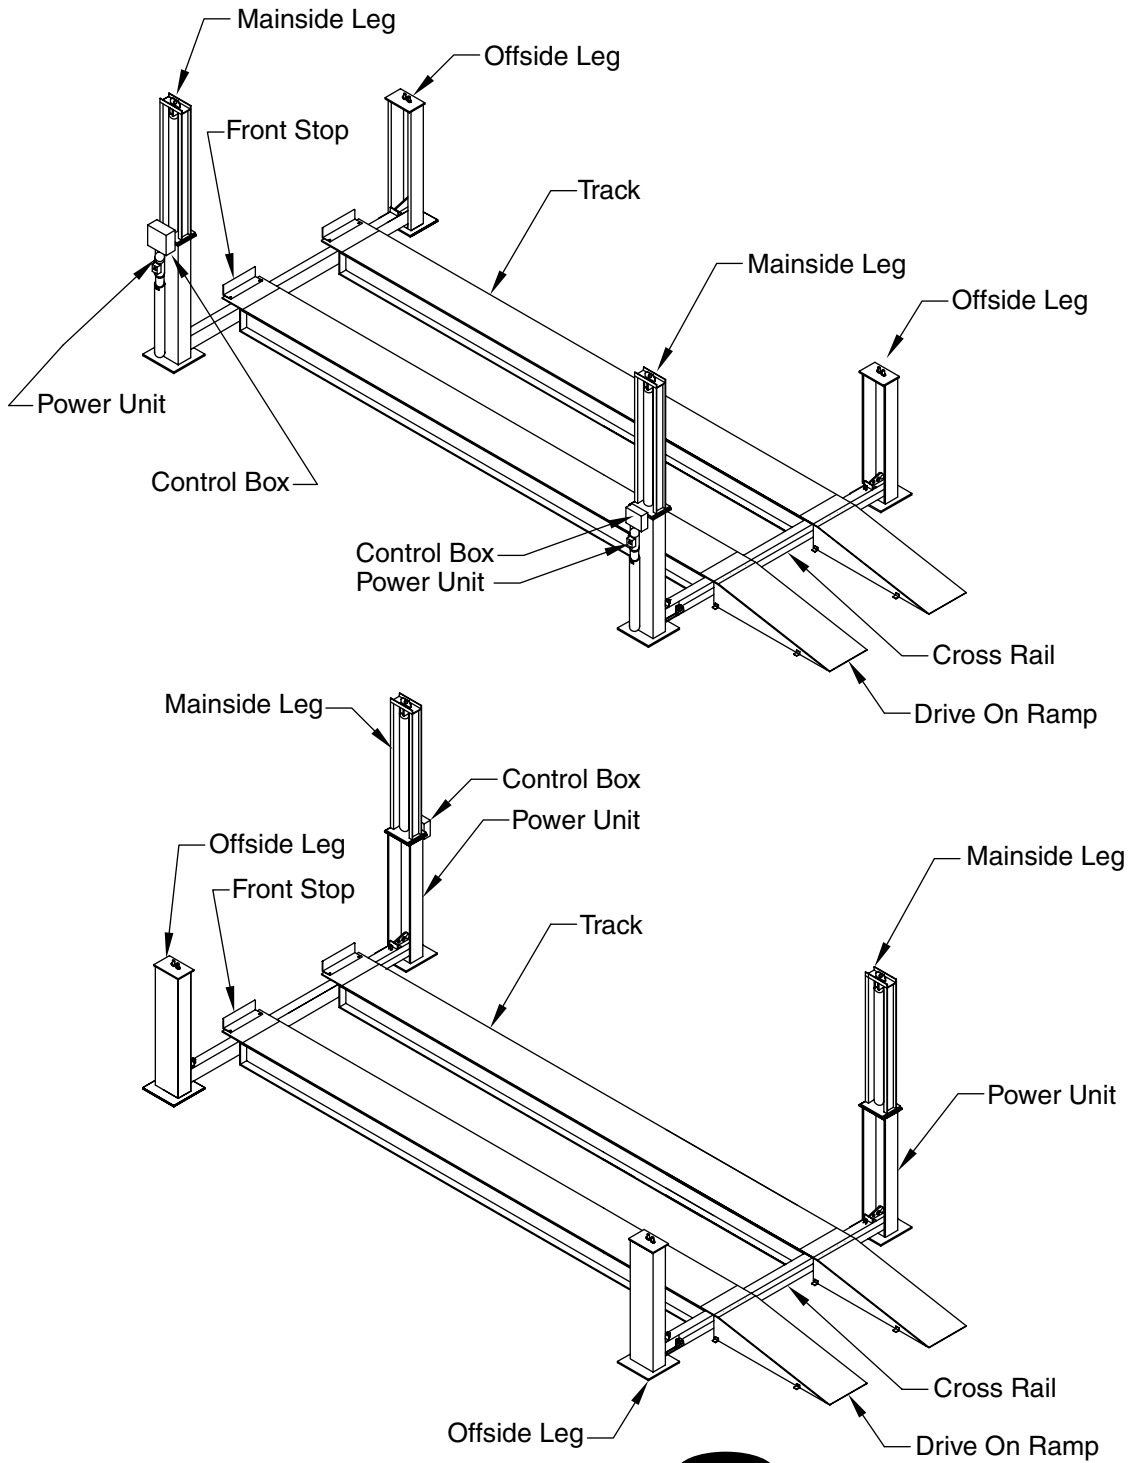
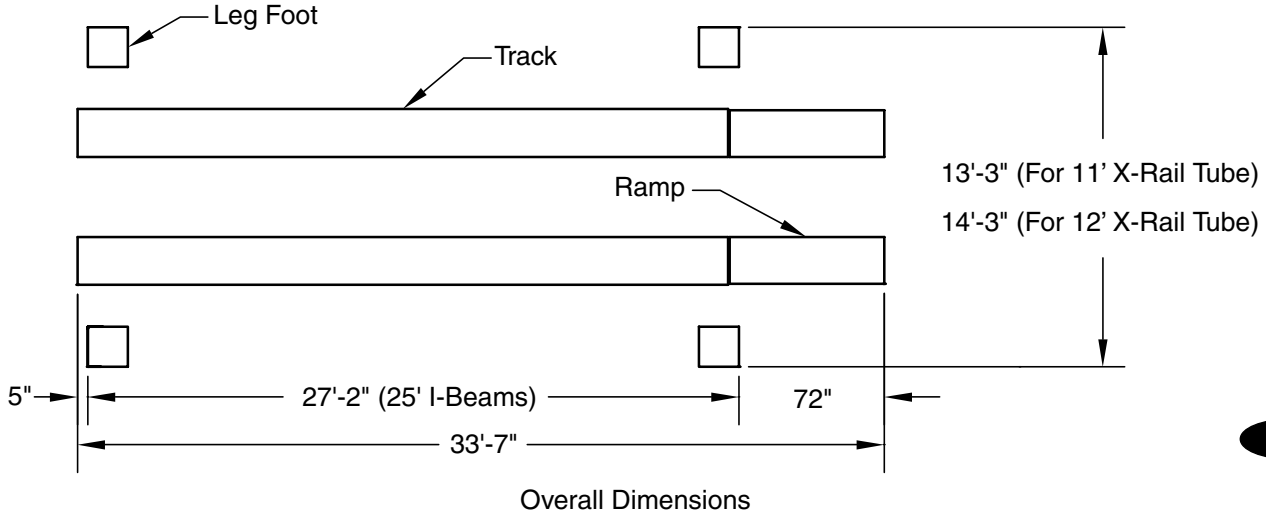
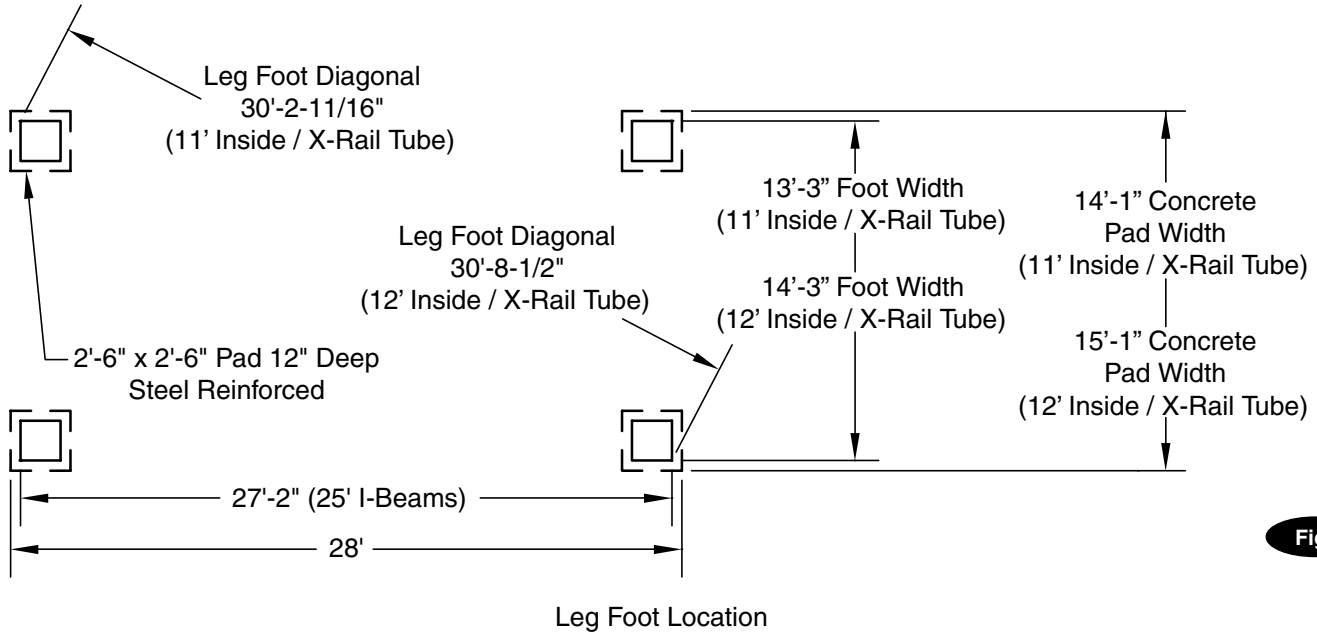

Fig. 1
Fig. 2
Fig. 3
- A. Determine the location for the lift installation. This lift can be used with the main side legs, which hold the cylinders and power units, positioned at either side as shown in Fig. 1. The operator with the controls will stand on the mainside of the lift, between the two legs. For this reason, the mainside of the lift should be positioned away from any walls or obstructions. Fig. 2 gives the overall dimensions of the lift, including the drive on ramps. The area must be level and there must be free access to load and unload the vehicles. There must be enough overhead clearance to raise vehicles 6 feet above the floor. The floor must be concrete with a minimum thickness of 6 inches and steel reinforced per commercial practice. If pads are used, they must be 2'-6" square with a minimum thickness of 18 inches and steel reinforced per commercial practice. Fig. 3 gives the pad layout dimensions.
- B. Refer to Fig. 3 to get the dimensions for the leg foot locations. Refer to Fig. 2 to determine where to locate the sides and ends of the leg foot rectangle with respect to walls and other obstacles at the installation. Include additional clearance where required near walls and obstacles.
- D. Mark on one of the two parallel lines the Points 1 and 2 to establish the ends of the leg foot rectangle as determined from Figures 2 and 3. From points 1 and 2 measure diagonally to the opposite parallel line to determine points 3 and 4. Draw a chalk line between points 1 and 4 and points 2 and 3. The four lines locate the four outside corners of the leg foot rectangle.
- E. Stand at the end of the rectangle which will be drive on entrance to the lift. As you face the way the vehicles will enter the lift, the side you want the power units on will be the Mainside of the lift. This side will be where the mainside legs, cylinder mounts, and power units will be located. The end opposite you is the front, where the front of the vehicles stop. The end where you are is the back of the lift, where the drive on ramps are installed, Fig. 1.
- F. Position the two mainside and the two offside legs as shown in Figure 1. Make sure that the legs are positioned correctly and square with the installation location.
- A. Prepare to position crossrails in their approximate locations as shown in Figure 1. The cylinder connector must be at the mainside leg locations. The safety latch release levers must be to the outside of the lift and at the mainside leg side, Fig. 6. **IMPORTANT** At this time check the safety latch linkage on each crossrail for correct operation. Pull the lever down until it locks, Fig. 6. The latches at the ends of the crossrail will lock in the released position. If the mechanism does not work correctly, check for damage or misalignment and correct. Repeat for both crossrails.
- A. Remove the cover of the electrical control box. If the lift has the mainside legs on the left as shown on the top of Fig. 1, attach the box to the top two holes of the top mounting bracket on the back of the rear main side leg. If the mainside legs are on the right as shown on the bottom of Figure 1, attach the box on the front mainside leg. Use two 5/16" x 1" bolts with two nylon insert nuts. Refer to Fig. 9. Mount the short cabled lowering valve coil on the post of the lowering valve assembly on the power unit below the control box. Secure with the nut on the post. Mount the long cabled lowering valve coil to the valve assembly on the power unit on the front mainside leg. Replace the cover.